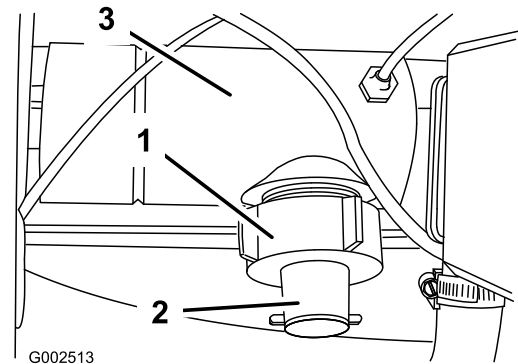

Figure 53
- Remove the retaining cap from the flowmeter body (Figure 53).